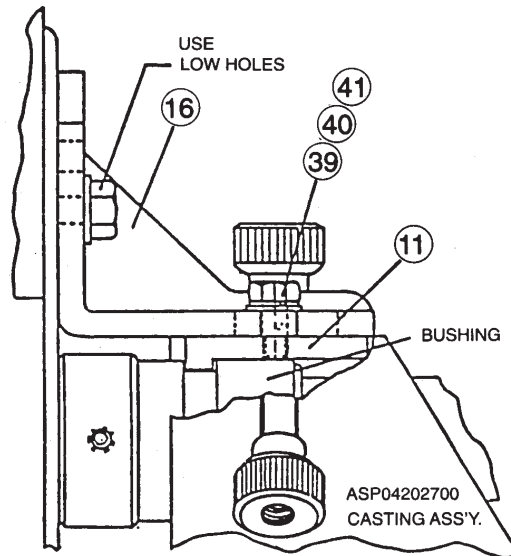

Fig. 9
5. Place cable through back of power feed while sliding power feed unit over cable into proper position on upper front casting assembly. Make certain lip of bushing lock engages slot in distributor arm bushing (Fig. 9). Swing up clamps on upper front casting into slots provided on mounting plate lock down tight. Now, tighten bushing lock screws.